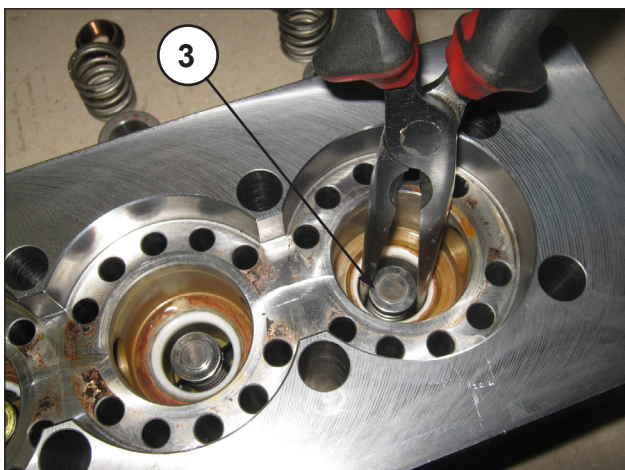
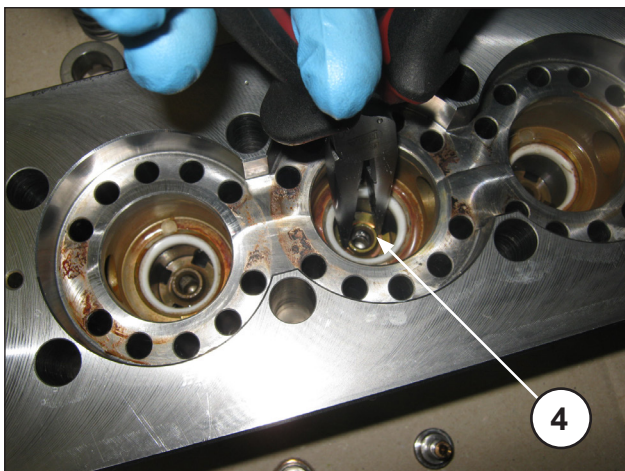

Fig. 27
Fig. 28
- Extract the outlet plates ③ and their guides ④ with the springs, as shown in Fig. 27 and Fig. 28, check for wear and replace if necessary, and in any case within the times indicated in the "PREVENTIVE MAINTENANCE" table of chapter 11 in the **Use and maintenance manual**.